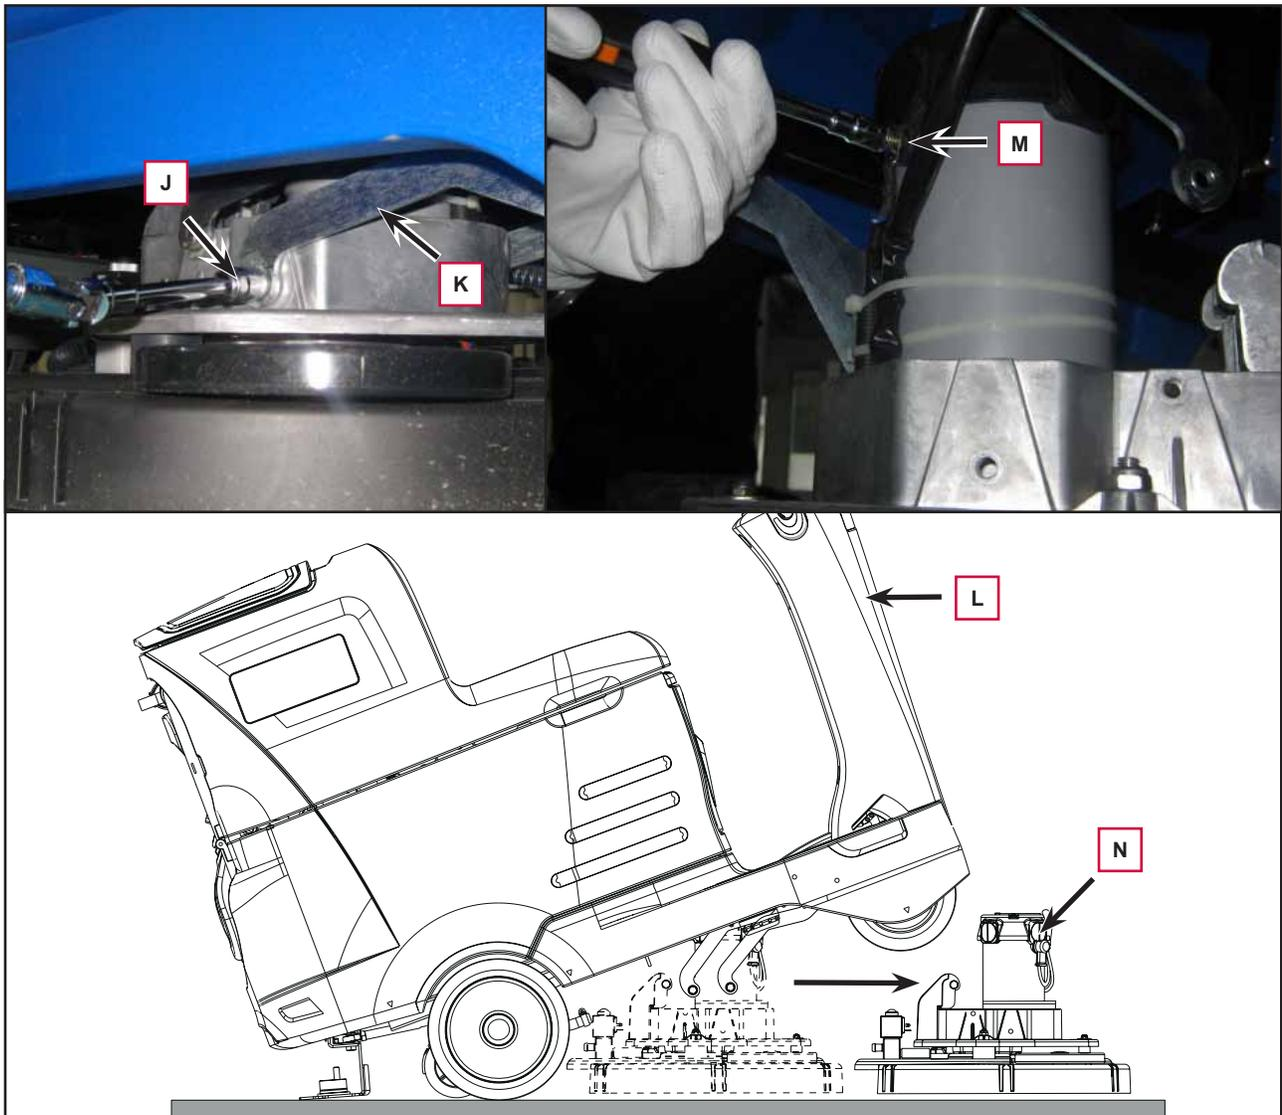

Figure 9
Warning! To easily remove the brush deck, lift the machine body at the front side as shown (L, Figure 9). Use extreme caution and follow the safety regulations using proper equipment or safety fixed supports suitable for the purpose.
12. Remove the 4 screws (J, Figure 9) from the raising levers (K).
13. Lift the machine body (L) and disconnect the electrical wiring harness (M) from the brush motor, then remove the brush deck (N) under the machine body.